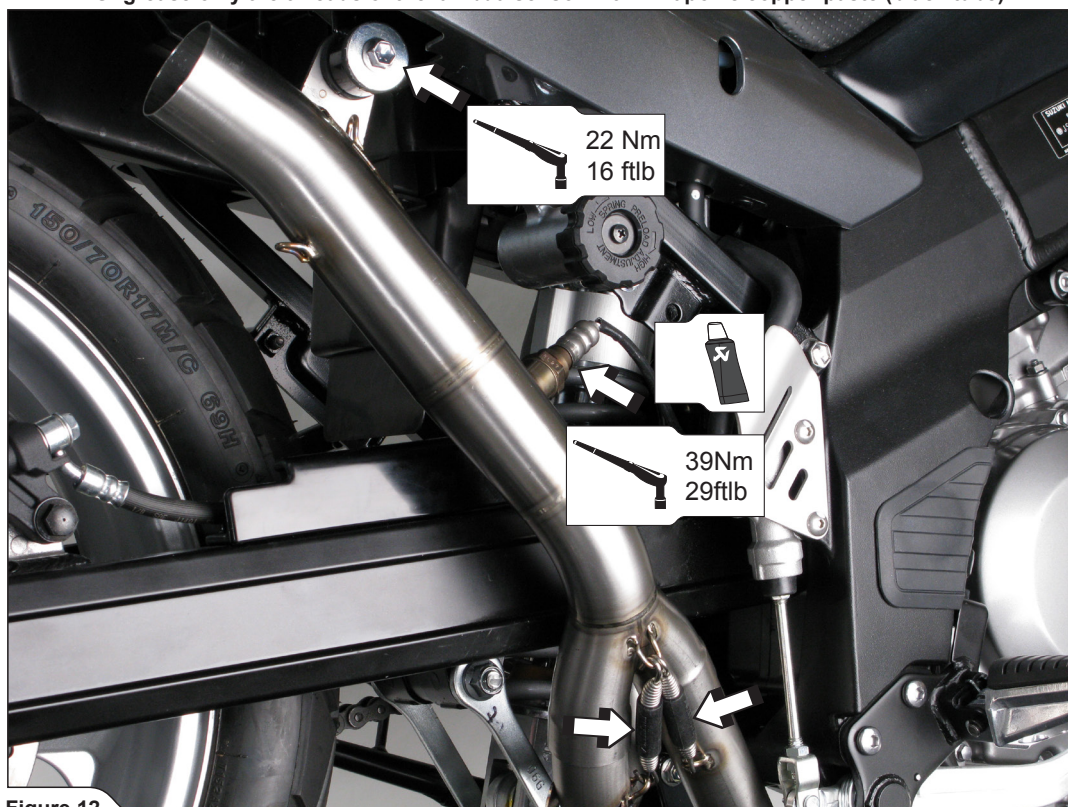

Figure 12
4. Slide the link pipe onto the front pipes and attach the springs. Tighten the lambda sensor and link pipe's bracket onto the subframe, using stock bolt, washers and nut (Figure 12).